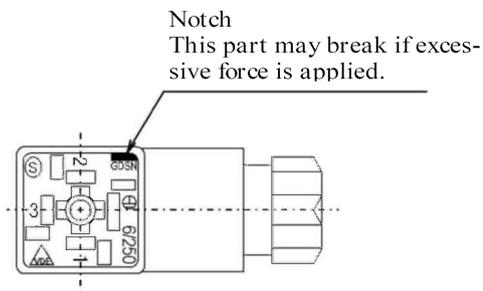

Figure 1 DIN terminal box notch
There is a notch ⑨ (beside the GDSN mark) at the bottom side of Gland ③. Inserting and prying a small screwdriver between Cover ② and Gland ③ will detach Gland ③ from Cover ② (refer to figure 1).